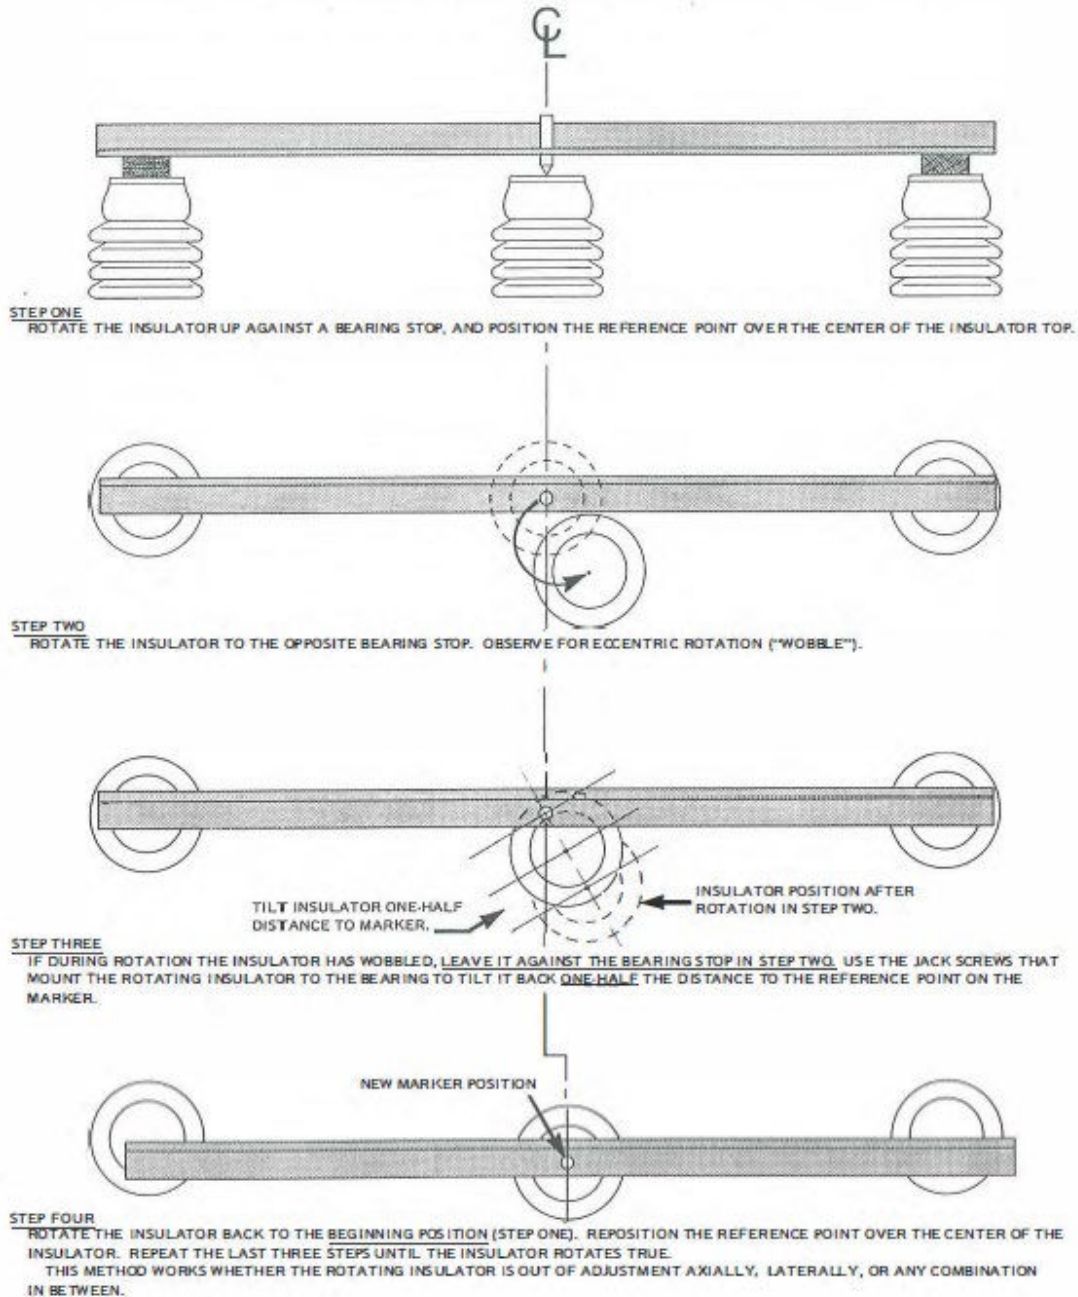

Figure 5: Adjusting the Rotating Insulator for Concentric Rotation
- 1.8. The best procedure to achieve this is described on the following page. Refer to **Figure 5** to determine the center of the rotating insulator, and follow the procedure on the next page to true up the center stack. Confirm proper insulator alignment, the rotating insulator must be as near to perpendicular as possible to both the long and short axis of the disconnect switch base.